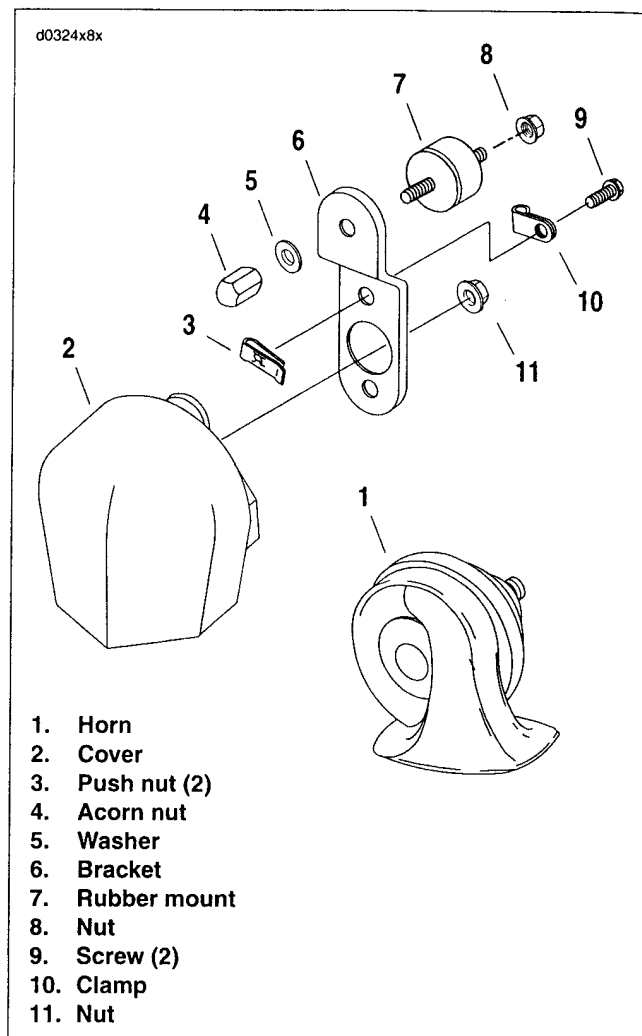
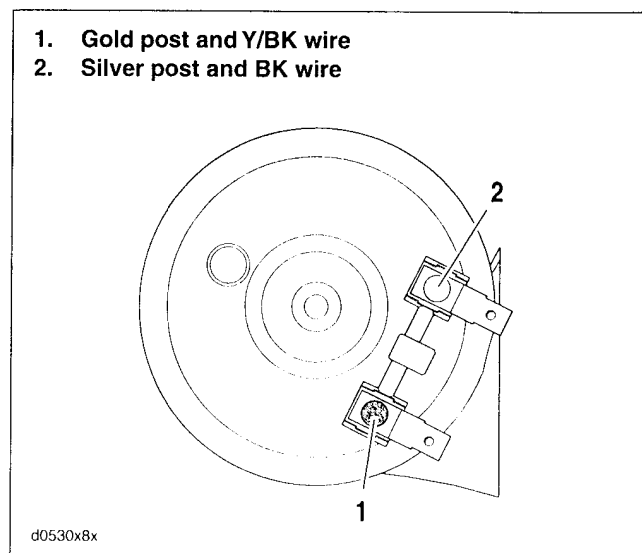

Figure 8-68. Horn
Figure 8-69. Horn Wiring
1. See Figure 8-68. Remove nut (4) and washer (5) to detach horn bracket (6) from vehicle.
2. See Figure 8-69. Disconnect wires from posts (1, 2) on back side of horn.
3. See Figure 8-68. Remove screws (9) and nut (11) to detach horn from bracket. Free wires from clamp (10).
4. Install **new** horn on bracket. Secure with screws (9), push nuts (3) and nut (11). Fold wires under clamp (10).
5. See Figure 8-69. Attach wiring.
- a. Connect Y/BK wire to gold post (1).
- b. Connect BK wire to silver post (2).
6. See Figure 8-68. Attach horn to vehicle using washer (5) and nut (4). Tighten nut to 80-100 **in-lbs** (9-11 Nm). When tightening fasteners, be sure the horn does not contact the horn cover or other parts.